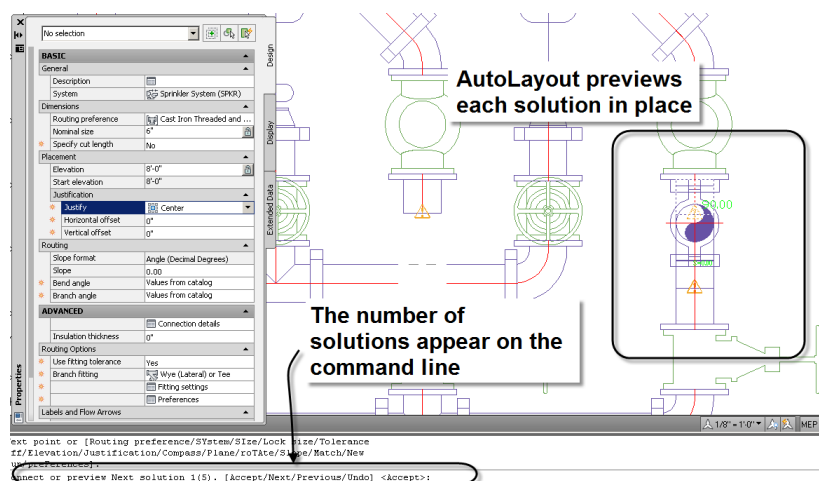

Figure 6.55
12. Multiple solutions will appear; please select number one as indicated in Figure 6.55.